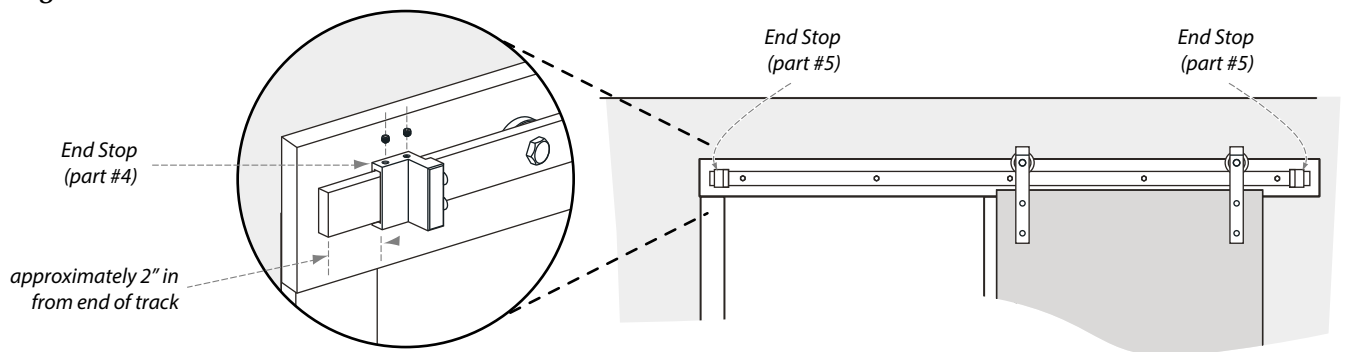

Figure 8
- On both ends of track, install end stops (part #5) approximately 2" in from the end of the track to prevent door from rolling off (figure 8).